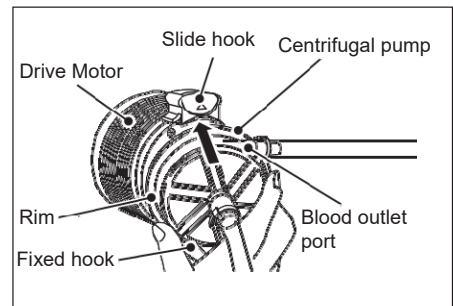

Figure 1-32
- Attach the centrifugal pump to the pump receptacle of the Drive Motor. (Figure 1-32)